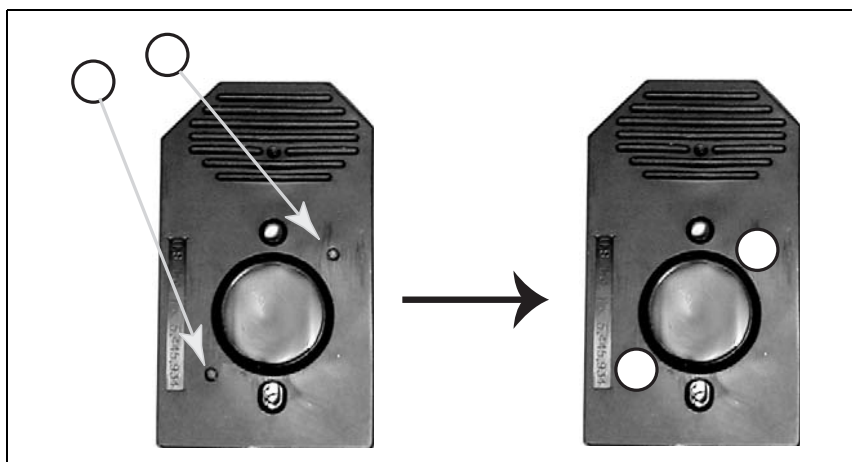

Figure 5.2
2. Carefully apply one spot to each of the two septa. Press to ensure the spots remain flat. If the spots do not apply smoothly (that is, if bumps, bubbles, tears or curled edges are observed) do not attempt to smooth out the spot. Remove the spot and apply a new spot. See Figure 5.2.